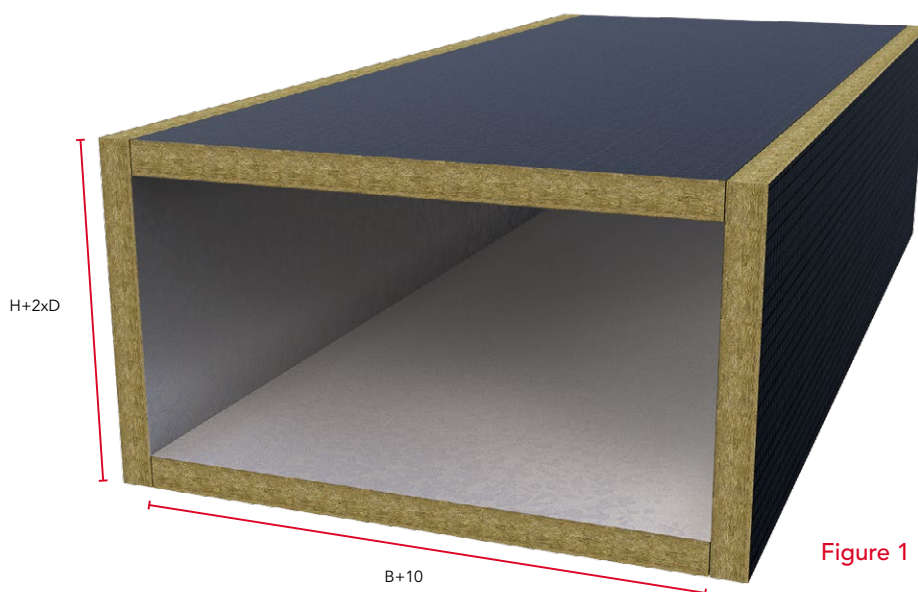

Figure 1
FIREPRO® DuctRock® is easily cut with a hand saw or alternatively a circular/table saw. The top and bottom slabs should be cut 10mm wider than the width of the duct to ensure a tight cross joint with the side slabs. The side slabs should be cut to the height of the duct (H) + 2 x the insulation thickness as shown in Figure 1.